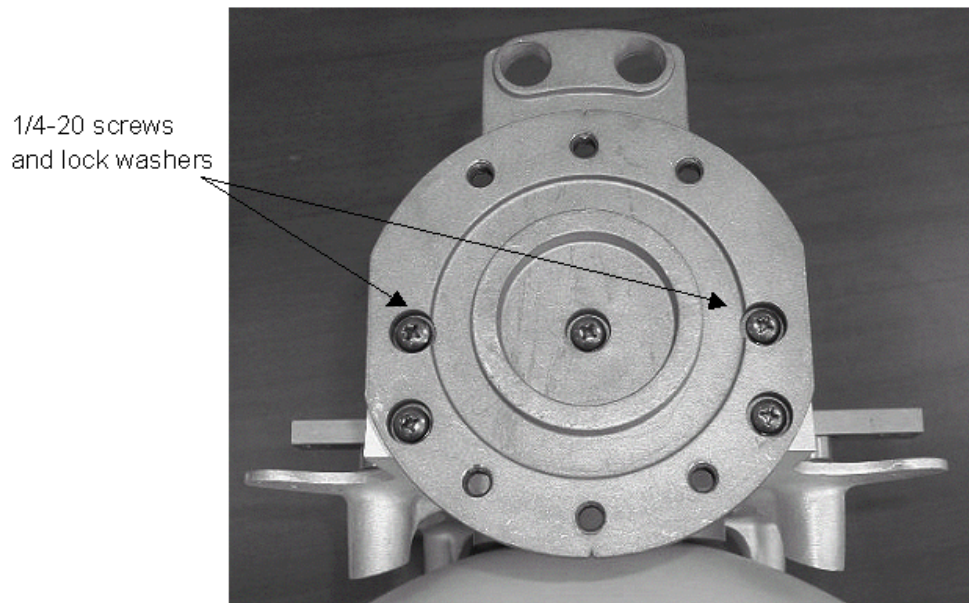

Figure 8-5: Elevation Adjustment Plate
The elevation adjustment plate allows the antenna to be tilted up or down, as shown in Figure 8-5.
1. Attach the elevation adjustment plate (101487-2) to the antenna mount, as shown in Figure 8-5. Use five 1/4" – 20 pan head screws (SP14-20.09) and split lock washers (WS14.SS-1).